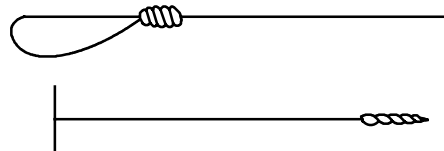

Fig. 3
- Remove the used gland packing from the stuffing box housing by using a flexible extraction tool (Fig. 3). Clean the stuffing box housing and open any clogged sealing liquid holes.